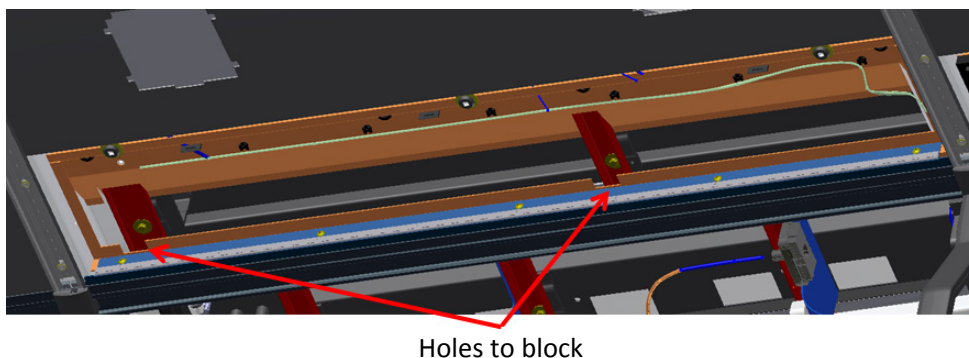

Figure 5 - View of Holes from Long Return Air Grill
- 1.5. There are a total of 6 holes to block, 3 on each side of the bus (see Figure 5).